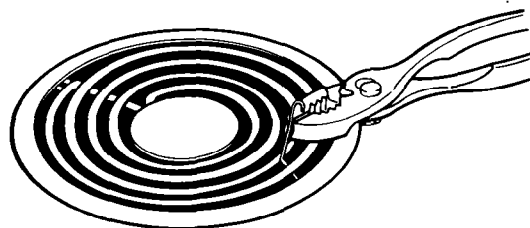

FIGURE 3
- Remove the shipping clip from each of the 4 surface units. The clips are for shipping only. Lift the clip with pliers or screwdriver. Then bend the clip to a vertical position. See Figure 3.